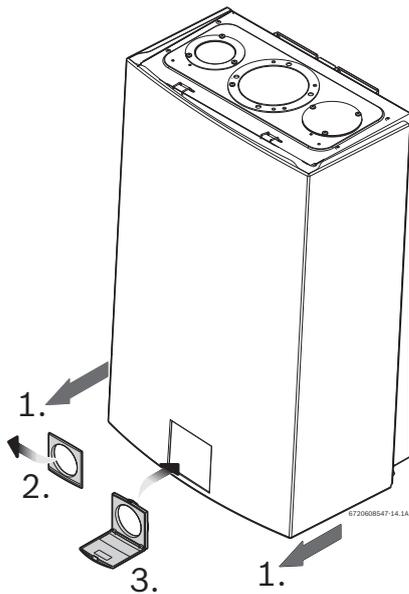

Fig. 3 Replace the control panel shield
- ▶ Remove the front cover panel and replace the original control panel shield with shield provided in the kit, see Fig. 3.
- ▶ Start and operate the water heater according to the water heater installation manual. NOTE: Open the control panel shield to access the controls of the heater, see Fig. 3.